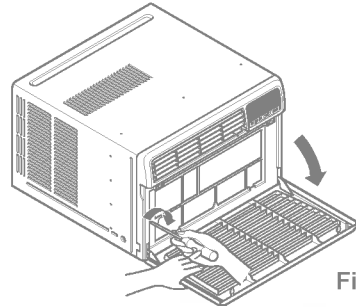

Fig. 11
- Pull down the inlet grille and secure it with a Type A screw ⑤ through the front grille. (See Fig. 11)